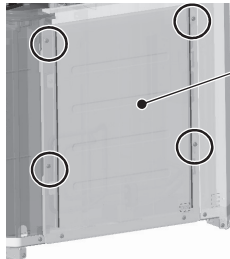

Figure 1
- (1) Remove the front heat exchanger. Refer to 8-12-8 Maintenance Procedures for the Heat Exchanger for details.
- (2) Remove the top, front, and right compressor covers. Refer to 8-12-4 Compressor Replacement Procedure for details.
- (3) Remove the duct from the control box. Refer to the control box replacement procedure for details.
- (4) Remove the right and inside (right) compressor panels by unscrewing the four screws. (Applicable only to the S-module. See Figures 1 and 2.)